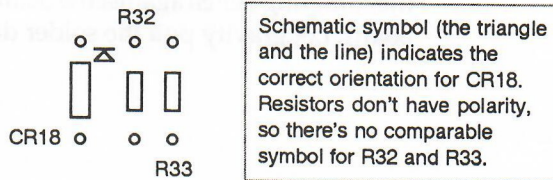

Figure 4-12 If you ever forget which way a part goes, don't guess. Check the component side of the board. It'll be marked.
8. Stand up the computer. Bend the leads on the replacement part so that it matches the one you took out, but don't cut them to size yet. Notice that one end of the diode is striped. On CR18 and CR19 (U.S. version) that stripe goes to the top. If you ever forget which way a part goes, don't guess. Check the component side of the board. As shown in Figure 4-12, it'll be marked.